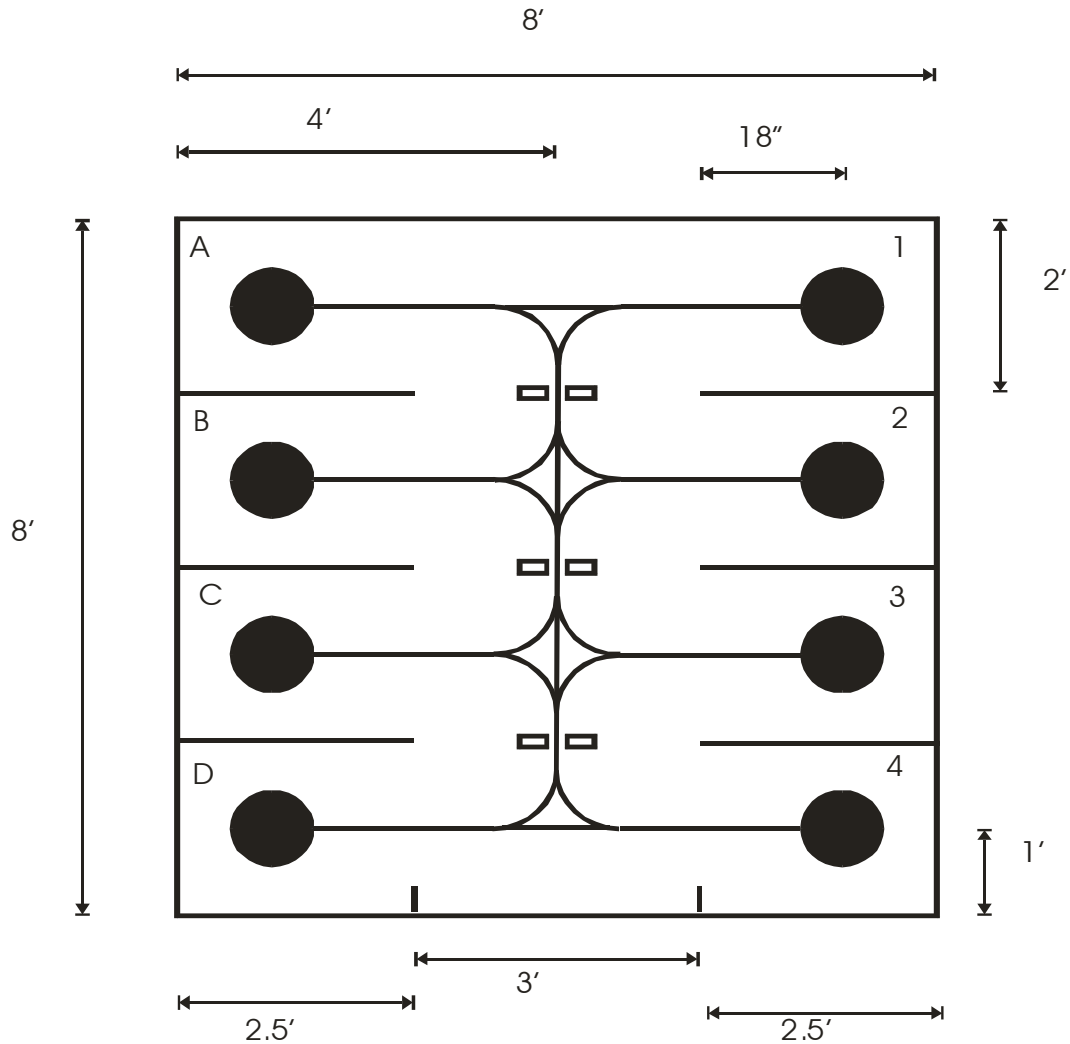
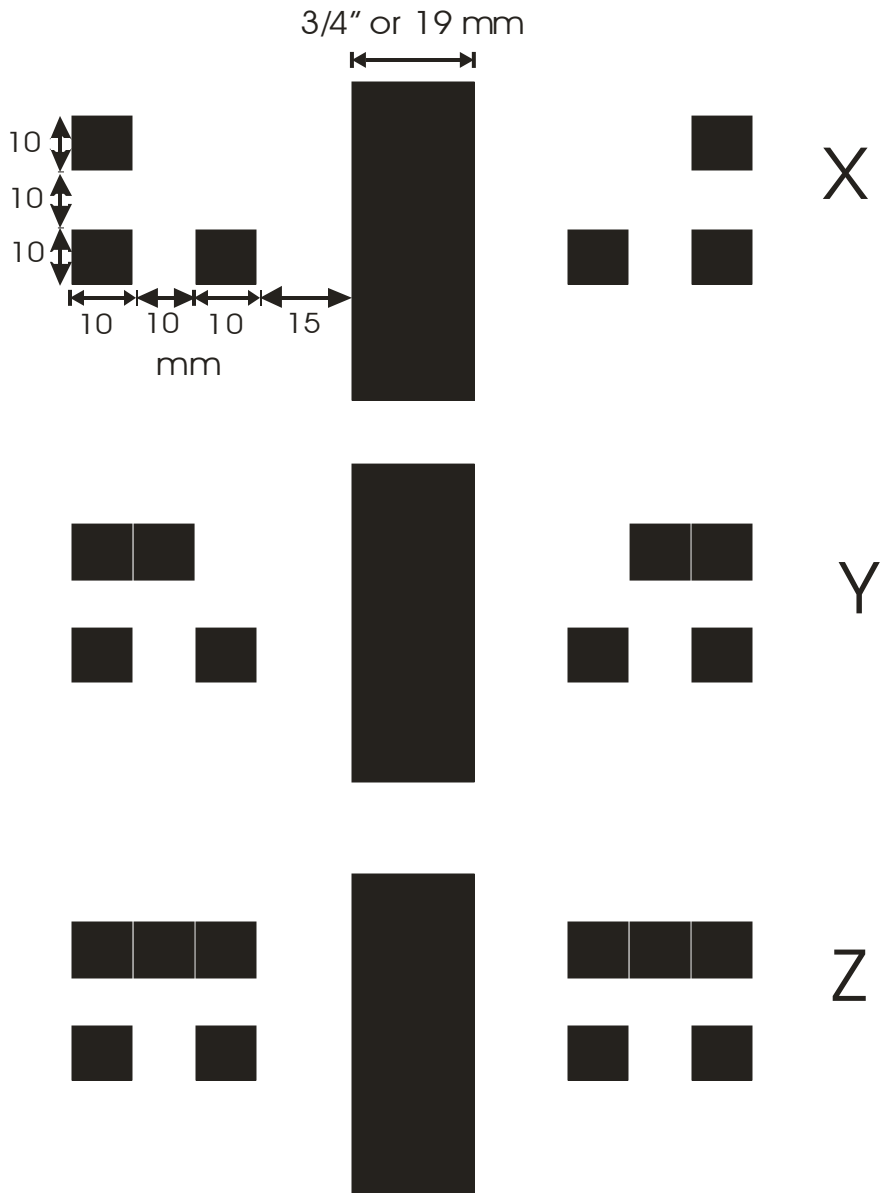

Figure 1: Course Layout
Figure 2: Black line and Floor reference markings
2.1 Course description: Figure 1 shows the layout of the course. It is a “warehouse” of 8 rooms, each 2 x 2.5 feet in size with a single entrance/exit 2 feet wide. A corridor 3 feet wide will separate 4 rooms on one side from 4 rooms on the other. Note that the “walls” between rooms are shown in figure 1 as black lines for clarity. In actuality they are only 1 inch high dividers and are painted white like the floor.
2.1.1 Plywood sheet construction. The course will be constructed of 2 plywood sheets joined together to make a relatively smooth floor. The floors will be painted flat white, with a $\frac{3}{4}$ " wide black line running between the rooms and in the center of the corridor. The two 4' x 8' plywood sheets will be placed such that the central corridor line will cross the joint of the two sheets perpendicularly. (In figure 1 the top of the course will be one sheet and the bottom half the other).
2.4.2 Floor reference markings: As figure 1 shows, there are 3 reference markings on each side of the line that a robot may use to orient itself. Figure 2 shows the 3 markings and their size relative to the main black line. These markings consist of 2 rows by 3 columns of black rectangles. Each individual rectangle field is 10 mm (+/- 1mm). This pattern occurs on both sides of the line at a midpoint between intersections. The markings are mirrored images of each other on each side of the line. This allows the markings to identify the robot's position and also in what direction the robot is traveling.